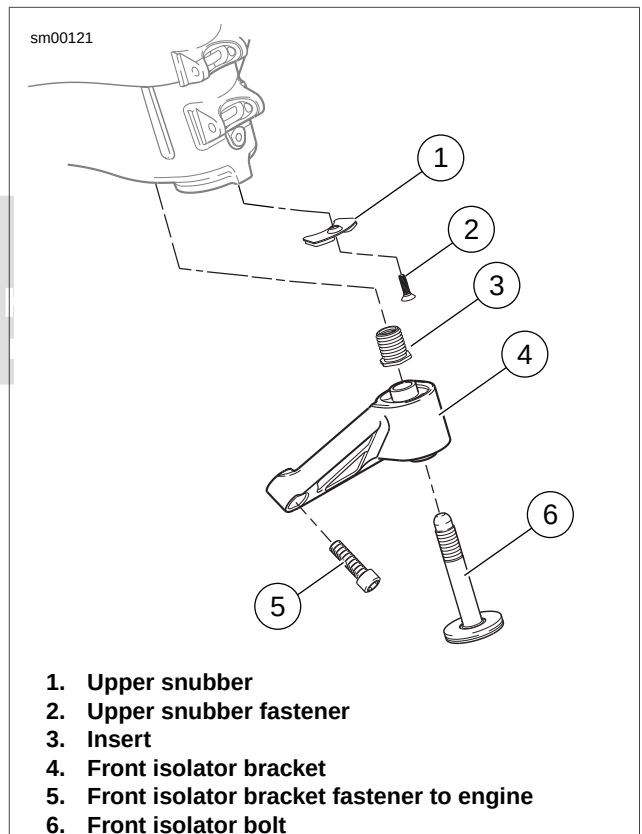

Figure 2-112. Front Isolator
3. See Figure 2-112. Remove front isolator bolt (6).
4. Remove front isolator mount fasteners (5).
5. Remove front isolator bracket (4).
6. Remove upper snubber fastener (2) and remove upper snubber (1).
See Figure 2-112. If the threaded insert (3) is damaged and needs to be replaced, install new insert with LOCTITE 271 (red) and tighten to 59-61 ft-lbs (80-82.7 Nm).
1. See Figure 2-112. Install upper snubber (1) tightening snubber fastener (2) to 12-36 in-lbs (1-4 Nm).
2. Loosely install front isolator bracket (4) with front isolator bolt (6).
3. Install front isolator bracket fasteners (5), and tighten to 49-51 ft-lbs (66-69 Nm).